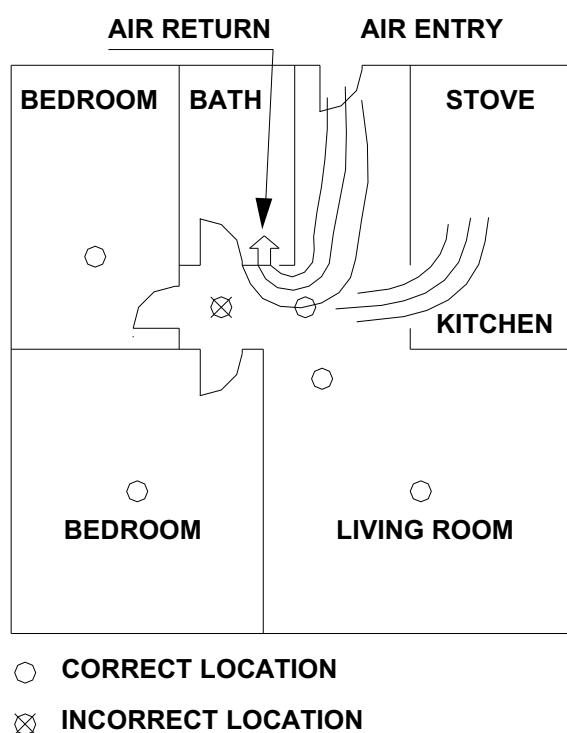

Fig. 3 – Dead-air areas
- In dead-air areas, where ventilation systems cause airflow that would not pass through the smoke sensing chamber. Also avoid airflow from areas where normal combustion particles are expected, such as kitchens. Refer to Fig. 3 which indicates the correct and incorrect alarm locations.